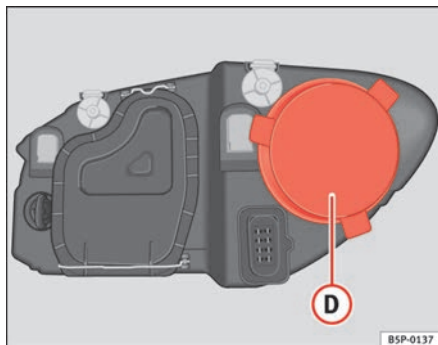

Fig. 185 Side lights
- Remove the cover ⇒ fig. 185 **D** by pulling on this.